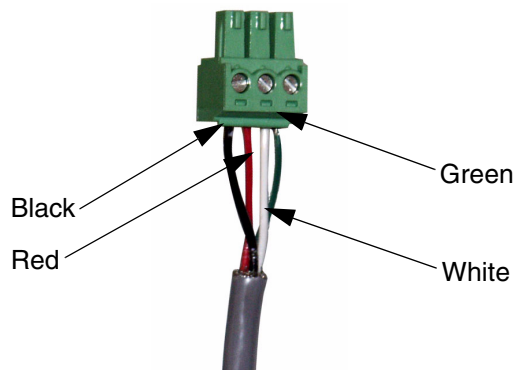

FIG. 4
5. Attach the lead wires into the terminal strip. See FIG. 4.